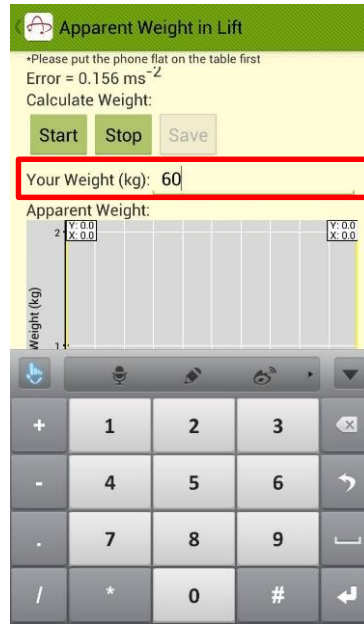

Fig 5.9
- The value of error will be shown after calibration. Input your weight (in kg) in the field provided (Fig 5.9).